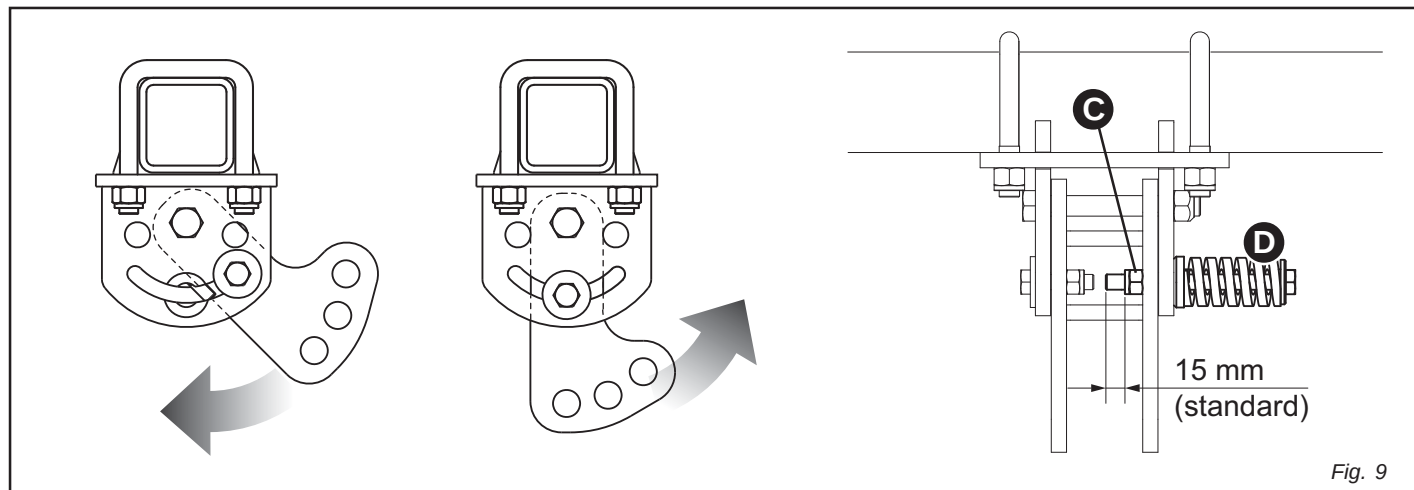

Fig. 9
The mower is equipped with a safety device to protect against obstacles. When, due to a blow, it becomes unhooked, stop without lifting the bar. Ensure that the universal shaft is not damaged and reverse until the safety device re-engages itself. If it tends to detach itself too easily, adjust the spring (C) using the nut (D) tightening it by 180° at a time. (Fig. 9).